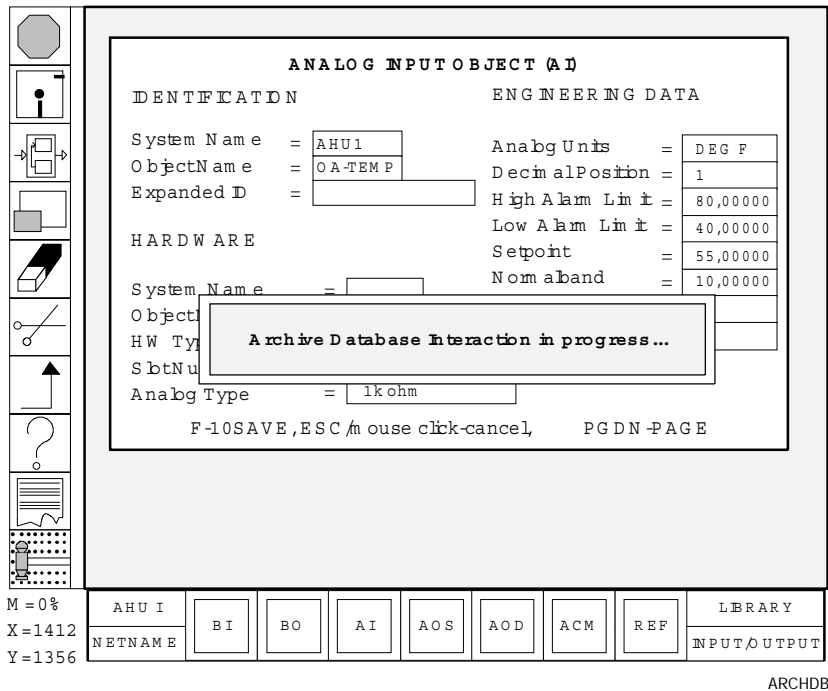

Figure 8: Archive Database Interaction Message
- The archive database is invoked each time you add, modify, or delete an object block. It is also invoked when you query an object block for the first time since the file has been loaded. The message *Archive Database Interaction in progress* displays in the middle of the screen (Figure 8). During the interaction, the Editor may display a user message in the bottom of the work area. For example, if you define an invalid hardware object name in the block's template, the message *Archive hardware object record does not exist—{system\object name}* will display. For more details, see the *Archive Database Interface* section at the end of this chapter.